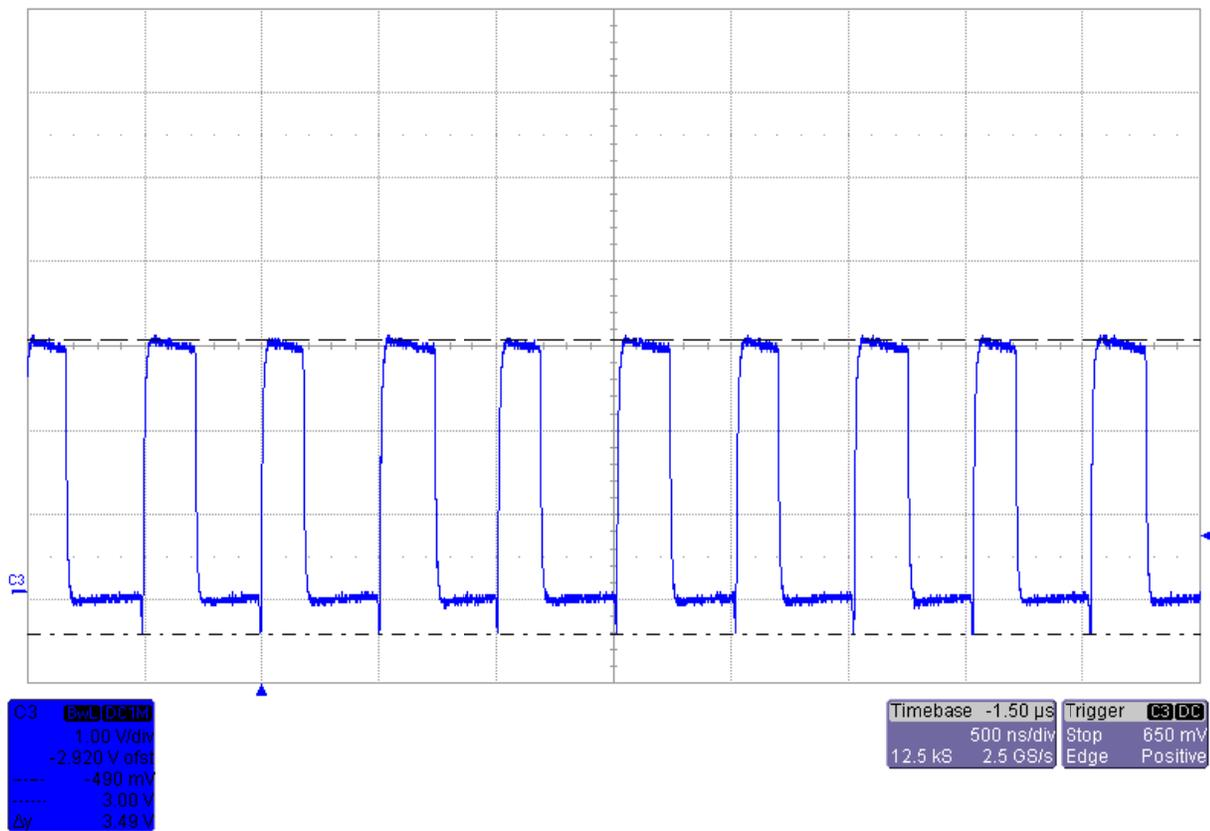

Figure 7: Switching Waveform of 1V03_BUCK at 3 A
- Figure 7: Switching Waveform of 1V03_BUCK at 3 A